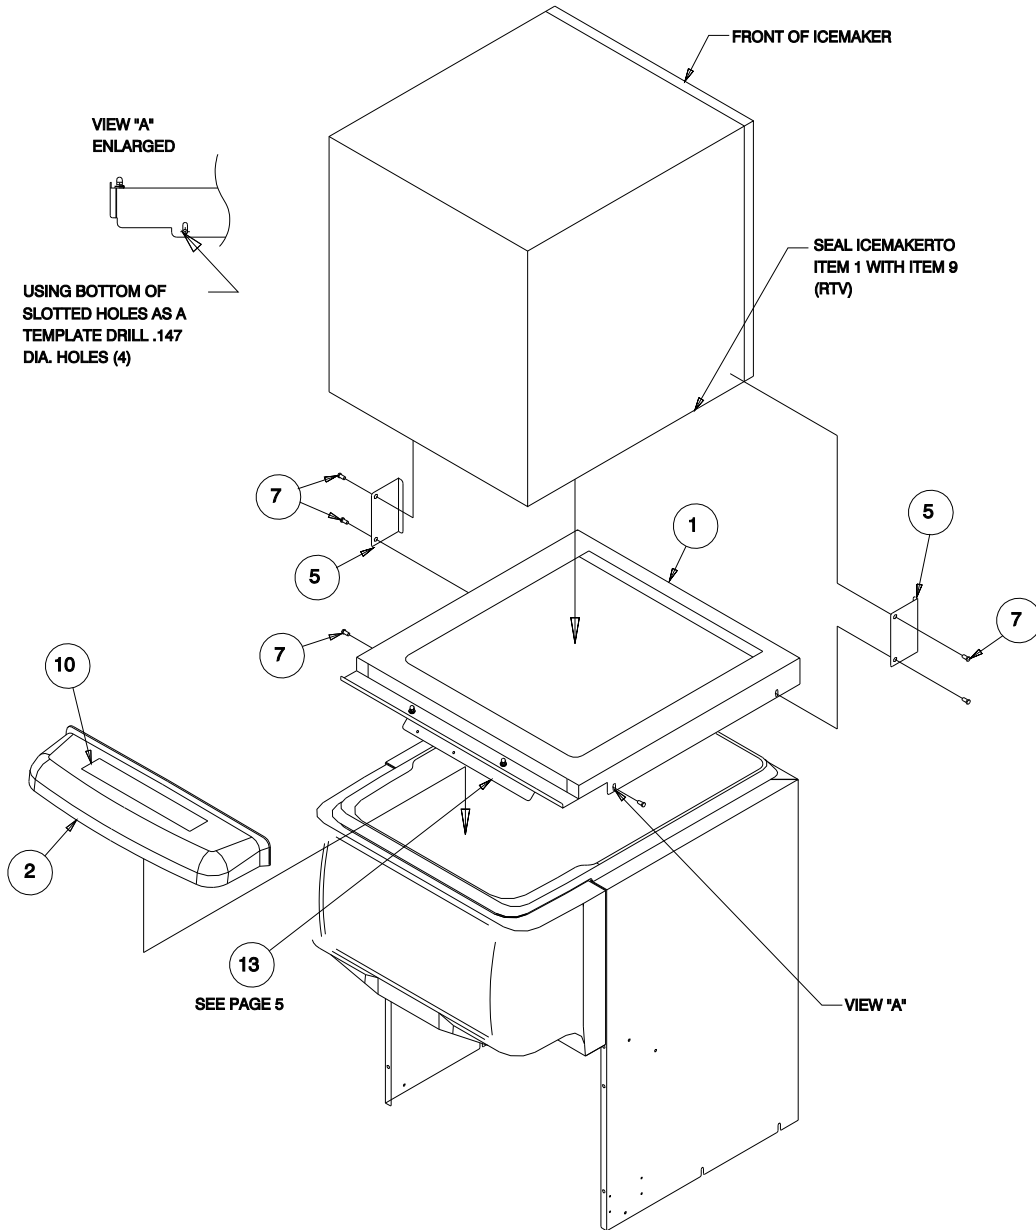

Figure 1. Cornelius "I" Series 30-Inch Dispenser Assembly
1. Position the ADAPTER LID ASS'Y (item 1) on the Dispenser flush with rear of the Dispenser cabinet as shown in Figure 1.
2. Using the slotted holes in the Adapter Lid Assembly as a template, drill four (4) .147 diameter holes at bottom of the slots into the Dispenser cabinet using a No. 26 drill bit (see detail A in Figure 1). Secure Adapter Lid Assembly to Dispenser Cabinet with four NO. 10 SCREWS (item 7).
4. Seal the Ice Maker to the top of the Dispenser (see Figure 1) as follows:
### CORNELIUS "I" SERIES 30-INCH ICE MAKERS (SEE FIGURE 1).
1. Run a bead of RTV (item 9) around the opening in the lid and inside of the perimeter of the Ice Maker outline so Ice Maker will set on the RTV.
3. Install the Ice Maker MOUNTING BRACKETS (item 5) as shown in Figure 1 by first removing the two rear screws from the Dispenser lid. Use base screws to install the brackets on the lid. Next, using the bracket as a template, drill .147 diameter holes into the Ice Maker Cabinet. **Use extreme caution not to drill into any of the Ice Maker's components (condenser, tubing, etc).** Secure the brackets to the Ice Maker cabinet with No. 10 SCREWS (item 7).
1. Install BASE (item 4) plate as shown, 1/8 off right side and rear. Apply RTV to underside of cover between cover and adapter lid. Fasten with No. 10 SCREWS (item 7), this is to be under the Ice Maker.
4. Secure MOUNTING BRACKETS (item 6) using mounting bracket as a template. Drill .147 diameter holes into the cabinet . Use extreme care not to drill into any Ice Maker components (condenser, Tubing etc.)
5. Install COVER LID (item 3) as shown and secure with No. 10 SCREWS (item 7). Also install GASKET STRIP (item 8) to flange of cover. **Note this GASKET STRIP (item 8) must be against the Ice Maker and compressed to form a seal with lid secured in position.**
6. Install LABEL, DISCONNECT POWER (ITEM 10) on the covers as shown in Figures 1 and 2.